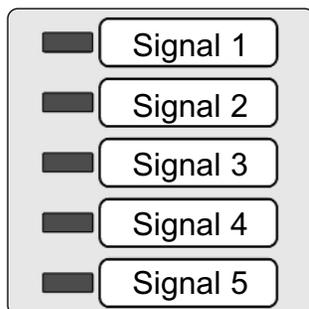

Figure 96: Multiplexer Module
3. After you enter the device name or IP address, the alarm's home page will be displayed (Figure 96).